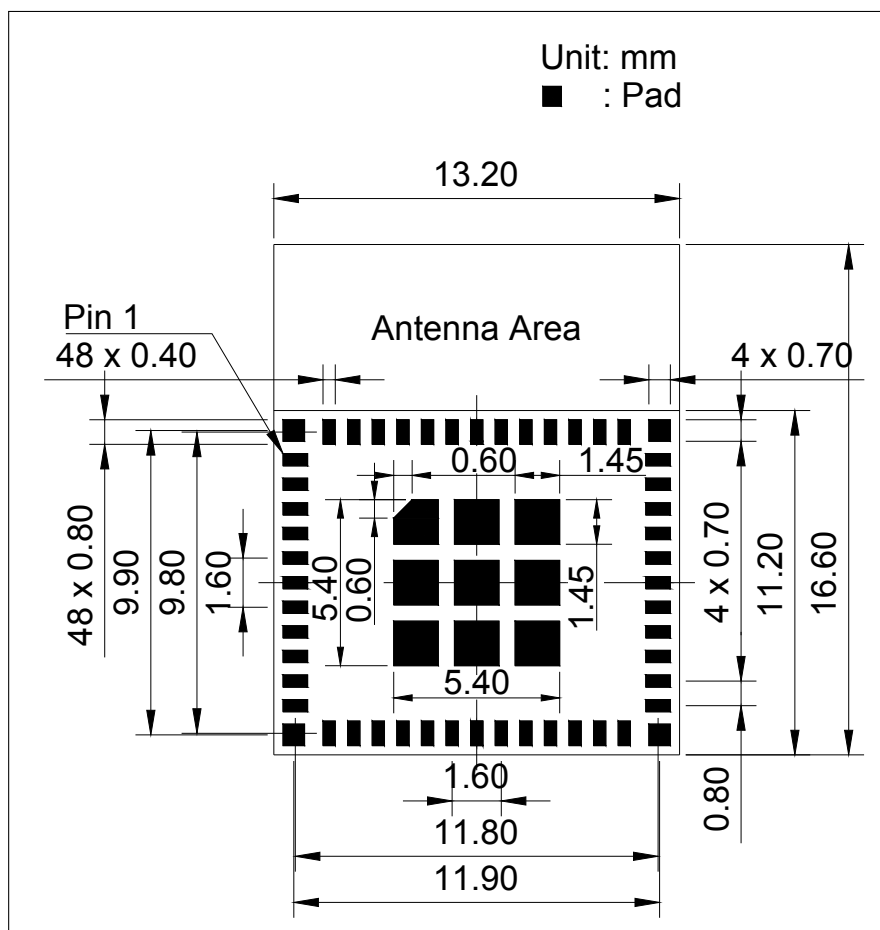
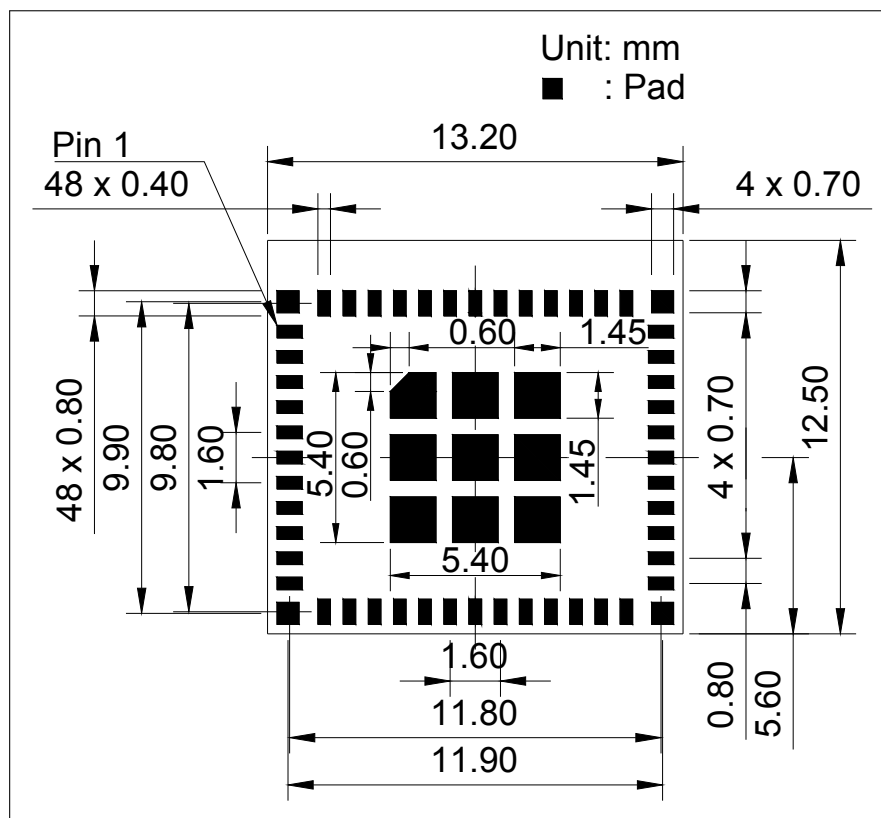

Figure 11-1. ESP32-C6-MINI-1 Recommended PCB Land Pattern
Figure 11-2. ESP32-C6-MINI-1U Recommended PCB Land Pattern
- Figures for recommended PCB land patterns with all the dimensions needed for PCB design. See Figure 11-1 *ESP32-C6-MINI-1 Recommended PCB Land Pattern* and Figure 11-2 *ESP32-C6-MINI-1U Recommended PCB Land Pattern*.
- Source files of recommended PCB land patterns to measure dimensions not covered in Figure 11-1 and Figure 11-2. You can view the source files for ESP32-C6-MINI-1 and ESP32-C6-MINI-1U with Autodesk Viewer.